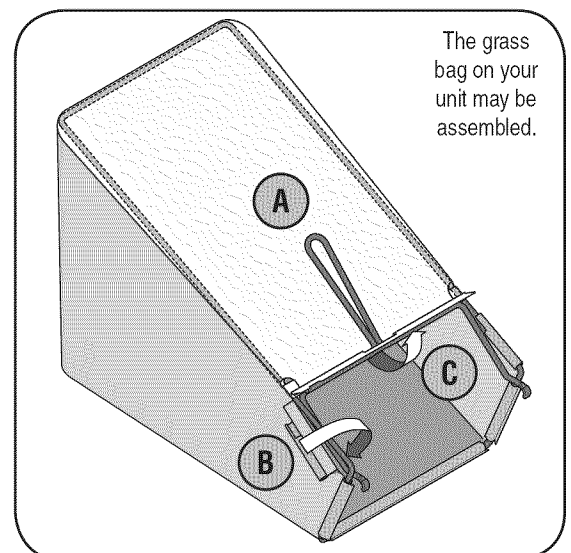

Figure 3-4: Grass bag assembly (if needed)
5. Follow the steps below, if needed, to assemble the grass catcher. See Figure 3-4.